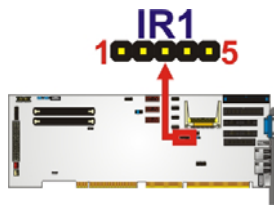

Figure 3-12: IrDA Infrared Interface Connector Location
- CN Location:** See **Figure 3-12**